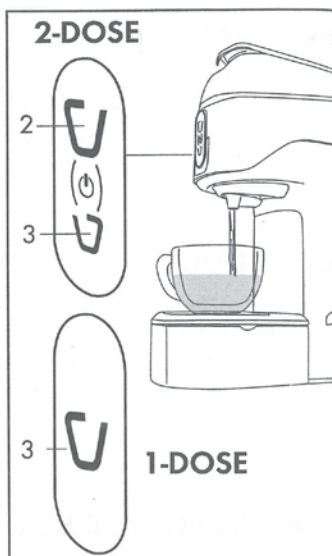

Fig. 9
press and hold down the symbol you want to program (2-3), the machine will start dispensing; once the desired quantity has been reached, release the symbol. The machine will then stop dispensing and the quantity will be memorised. (Fig.9)
press and release the symbol (3), press again immediately and hold down the symbol, the machine will start dispensing; once the desired quantity has been reached, release the symbol. The machine will then stop dispensing and the quantity will be memorised. (Fig.9)